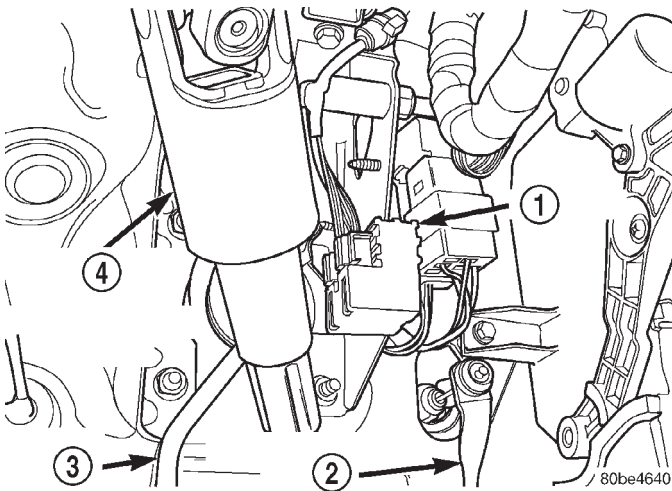

Fig. 51 Brake Lamp Switch
(9) Hold stop lamp switch firmly in one hand. Using other hand, pull outward on the plunger of the stop lamp switch until it has ratcheted out to its fully extended position.
(10) Install the brake lamp switch in the brake pedal bracket (Fig. 49). Install it using the following procedure. Depress the brake pedal as far down as possible. Then while holding brake pedal down, align the index key on switch with slot in square hole of mounting bracket. When switch is fully installed into the bracket, rotate stop lamp switch in a clockwise direction approximately 30 degrees until it is aligned straight up and down (Fig. 51).